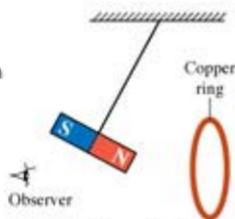

Figure 4.30
3. Figure 4.30 shows a simple pendulum with a bar magnet as the bob oscillating near a copper ring.
- (b) At the position of the observer in front of the ring as shown in Figure 4.30, state whether the current in the copper ring is clockwise or anti-clockwise.